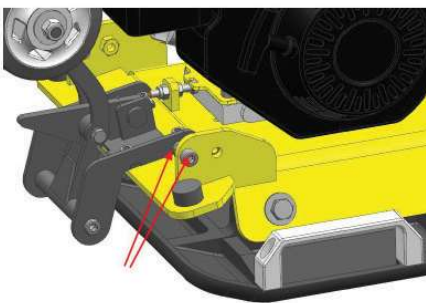

Fig. 11
6.3 Remove the socket heads and nuts from the back of the compactor. (Fig. 11)